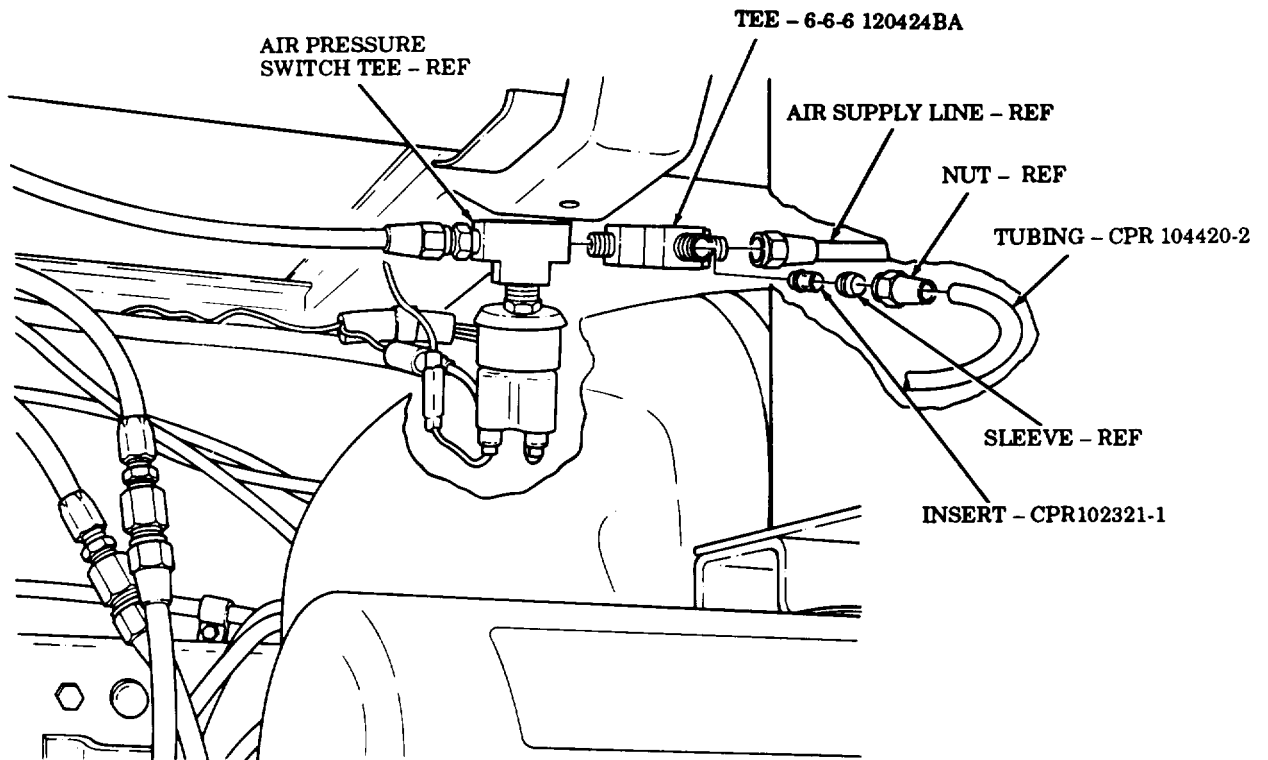

FIGURE 10
- (13) Apply 12302758 pipe sealant to threads of 6-6-6 120424BA tee and install tee (6-6-6 120424BA) on air pressure switch tee. Connect air supply line to tee (6-6-6 120424BA) as shown in figure 10.
- (14) Route tubing (CPR104420-2) to tee (6-6-6 120424BA) and cut to length as shown in figure 10.
- (15) Install CPR102321-1 insert, sleeve, nut, and tubing (CPR104420-2) on tee (6-6-6 120424BA) as shown in figure 10.